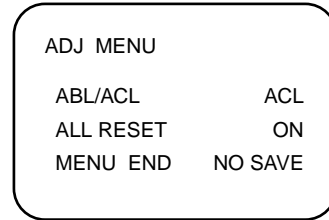

Fig. 3-6
- The ADJ MENU is as shown in Fig. 3-6.